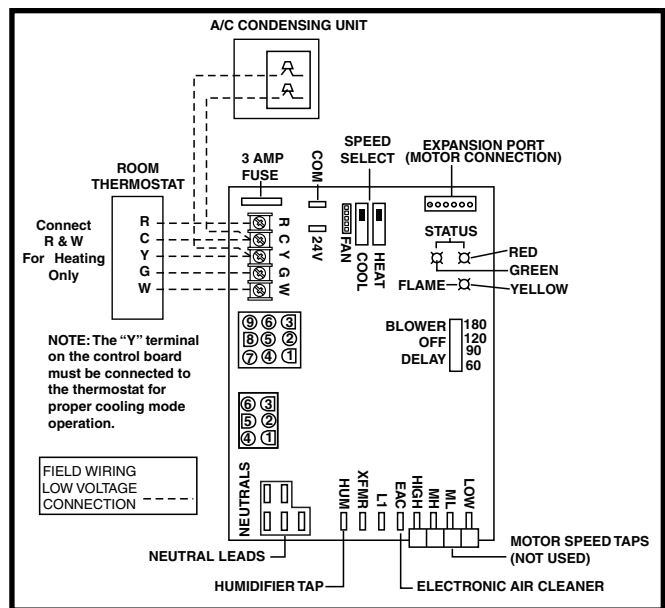

Figure 15. Low Voltage Field, Four-wire Heating/Cooling Applications
- The thermostat must be installed according to the instructions supplied by the thermostat manufacturer. Low voltage connections (24 VAC) from the thermostat are wired to the terminal strip on the integrated control in the furnace. Figure 15 (page 22) contains the proper connections for heating only (two-wire) and heating/cooling (four-wire) applications. Recommended minimum wire gauge for thermostat wiring is shown in Table 4 (page 22).
The operating sequences for the heating, cooling, and fan modes are described below. Refer to the field and furnace wiring diagrams: (Figures 15 & 16, page 31) and (Figure 18 page 28).